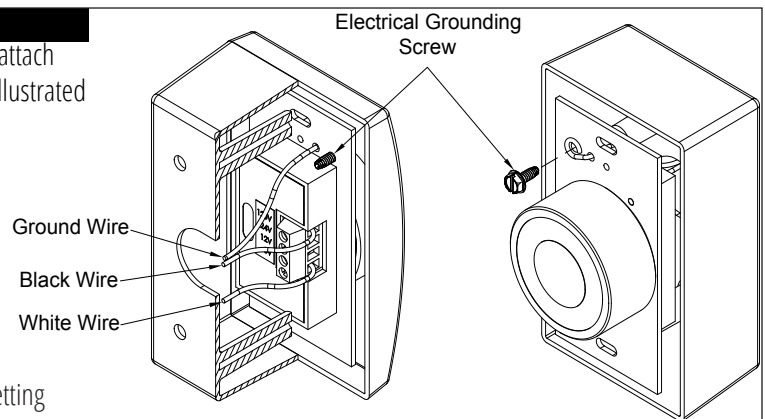

Figure 5.2 Connection with Grounding Screw connection for 120V AC Setting
- When utilizing a 120 V AC power source, it is essential to securely attach the ground wire to the designated electrical grounding screw, as illustrated in Figure 5.2.